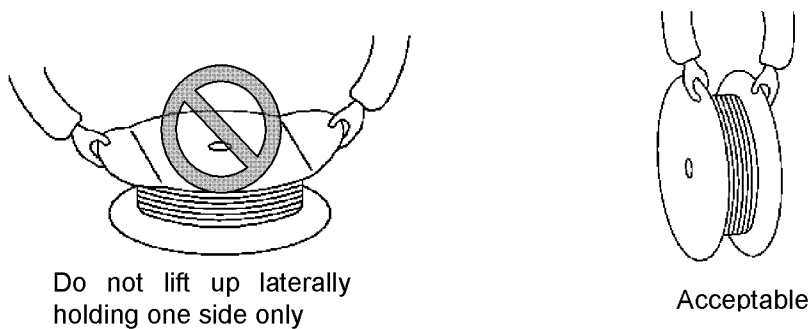

Fig. 4
- (1) Avoid leaving or carrying the contact reel in an open area without wrapping it in proper material.
- (2) Do not lift up and carry the contact reel by gripping one the side of reel, this may result in damage to the reel, and contacts before use.(See Fig.4)